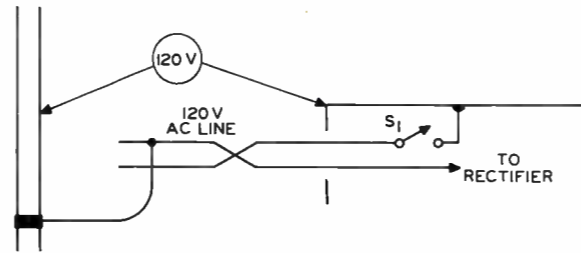

FIGURE 19
With the power supply connected as shown in Figure 19, (A) the chassis is "hot" with respect to ground. (B) the chassis and ground are at the same potential. (C) no shock hazard exists. (D) the chassis is isolated from the ac line.